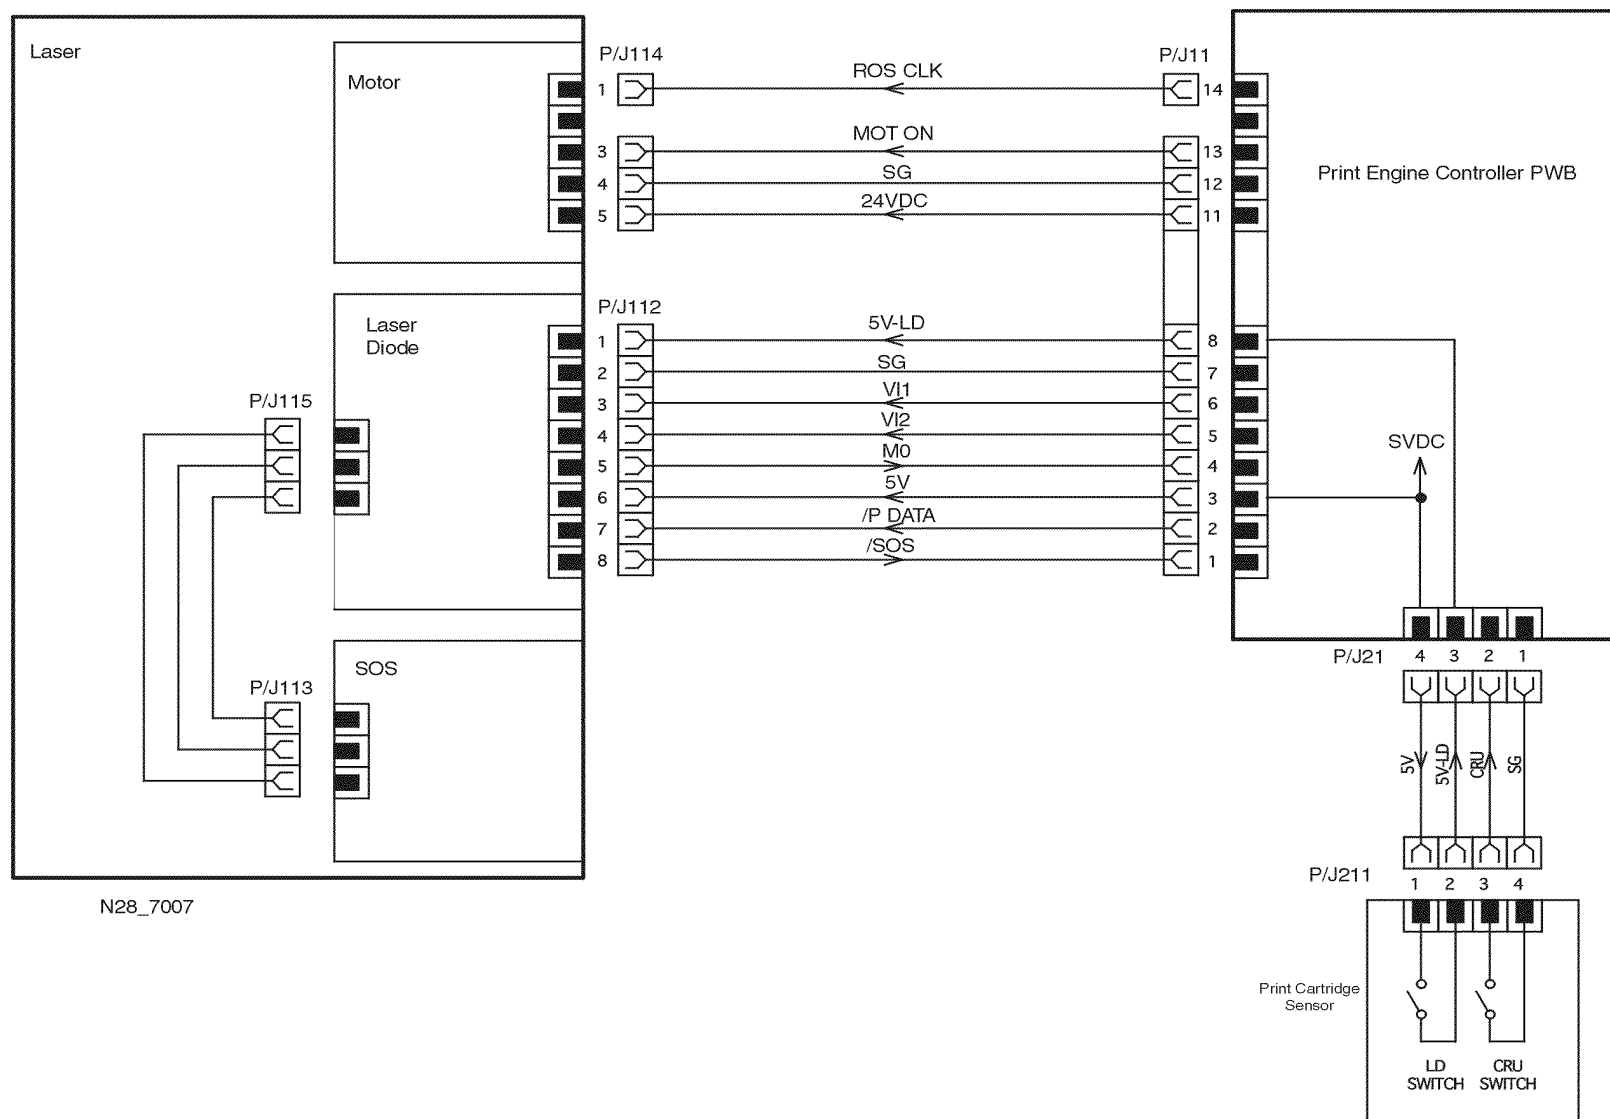

Figure 6 Print Engine Controller PWB-Laser and Print Cartridge Sensor Assembly (Print Cartridge Switch and LD Switch)
3. Print Engine Controller PWB<-->Laser and Print Cartridge SENSOR ASSEMBLY (Print Cartridge SWITCH and LD SWITCH) (Figure 6, Table 5)